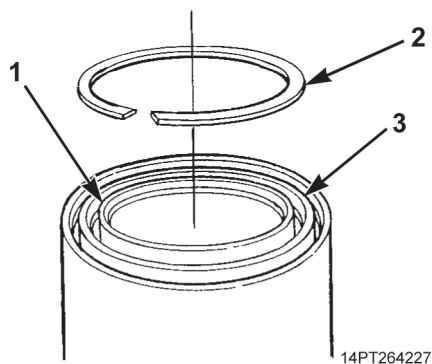

Figure 25. Bottom Retaining Ring Installation.
9. Install sleeve (Figure 25, Item 1) in sleeve (Figure 25, Item 3) and install bottom retaining ring (Figure 25, Item 2) in sleeve (Figure 25, Item 3) using 4-inch seal installation tool.